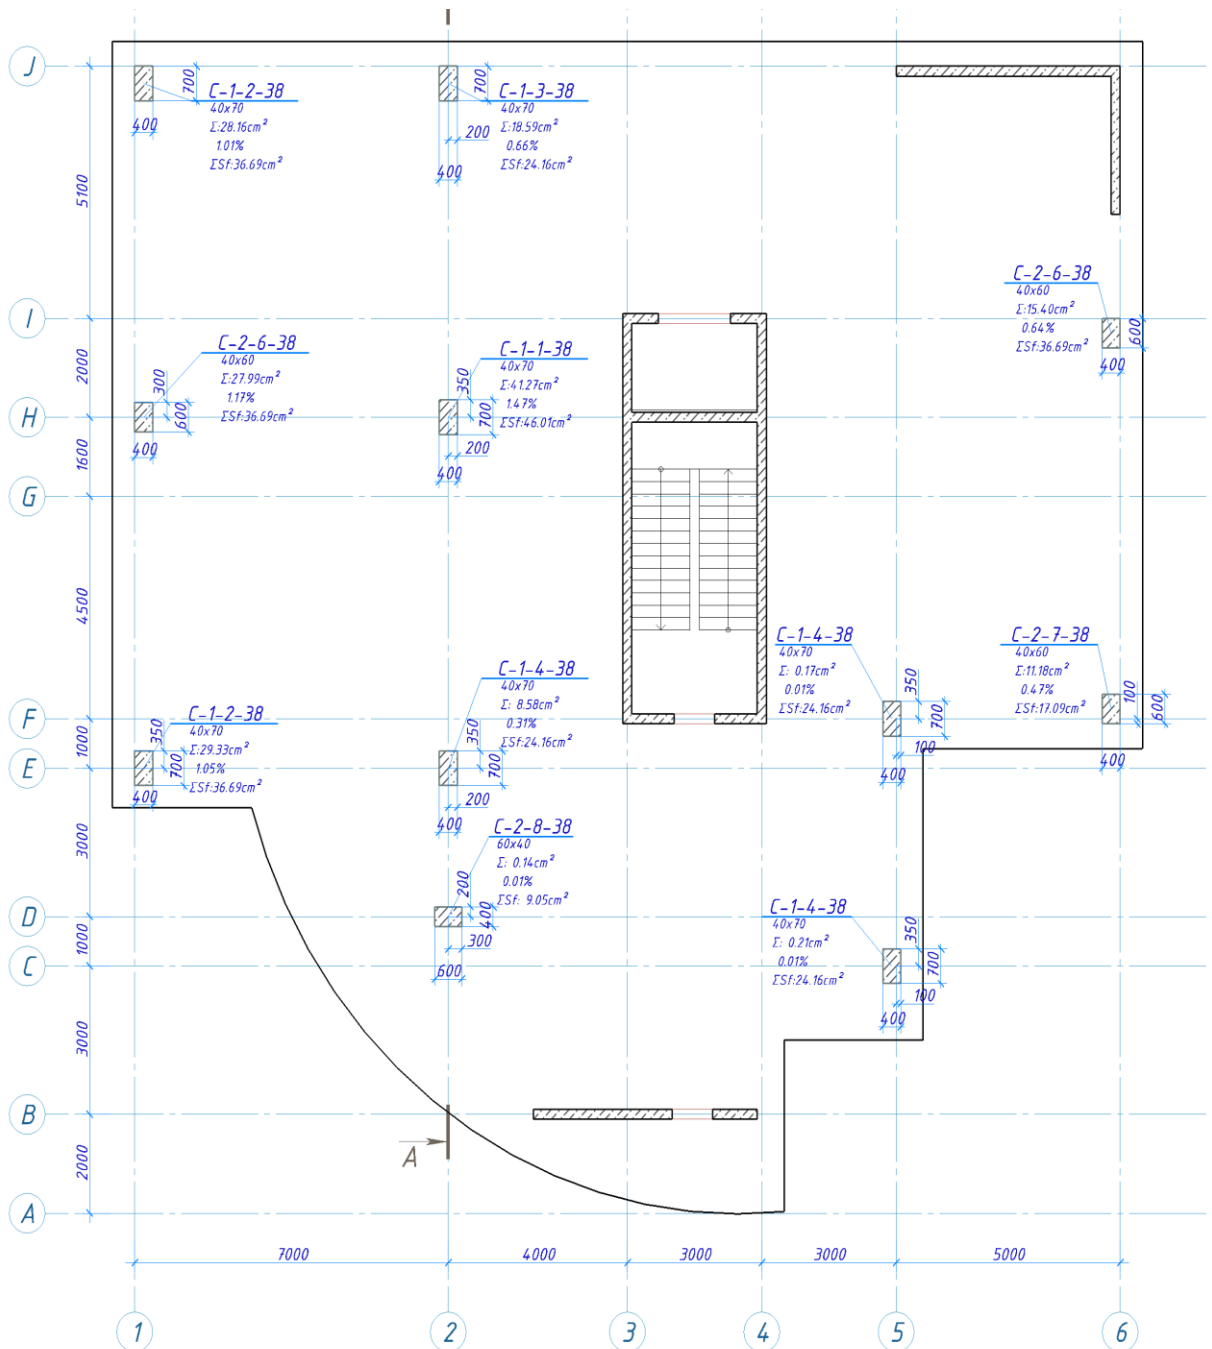

Figure 27.11. Plan of the first storey with column tags, column dimensions and snap from columns to grid lines
- ⇒ On the **Reinforcement** ribbon tab, on the **Main reinforcement** panel, point to the same drop-down list and click the **Reinforcement in columns: info** button . On the screen you will see the plan of the first storey with column tags, column dimensions, snap from columns to grid lines and information about column reinforcement (see Fig.27.11).